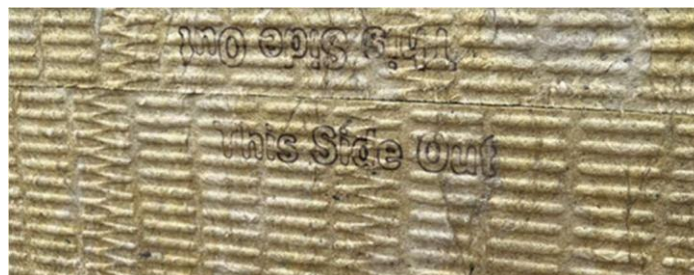

Fig. 30
4. When dual density insulation is used, ensure that the high-density side faces outward as identified by the branding "This Side Out" – Figure 30.